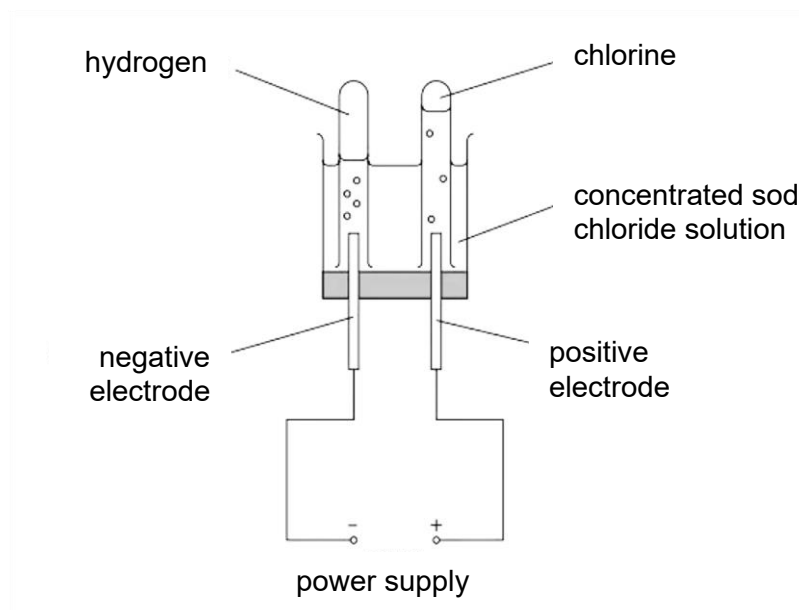

Fig. 6.1
- 6 Fig. 6.1 shows the electrolysis of a concentrated solution of sodium chloride in the laboratory.